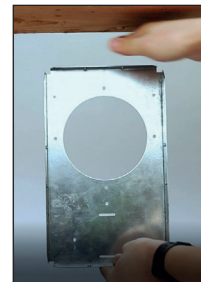

Fig. 3
- Identify the orientation of the Non-Electrical New construction housing based on any interference during mounting. [ Fig. 3 ]